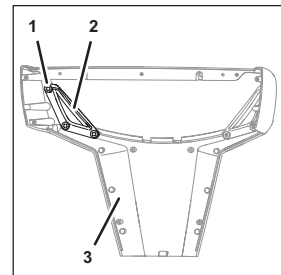

Fig. 51
1. Remove the fastening bolts (Fig. 51/1) of the front insert (Fig. 51/2).
2. Remove the front insert (Fig. 51/2) from the front panel (Fig. 51/3).
4. Position the front insert (Fig. 51/2) within the front panel (Fig. 51/3).
5. Attach the front insert (Fig. 51/2) using the fastening bolts (Fig. 51/1).